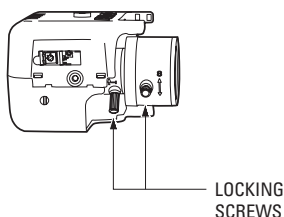

Figure 9. Varifocal Lens Adjustment
2. **Varifocal lens only:** Loosen the focal length and focus locking screws (refer to Figure 9). Adjust according to scene detail. Retighten the screws.